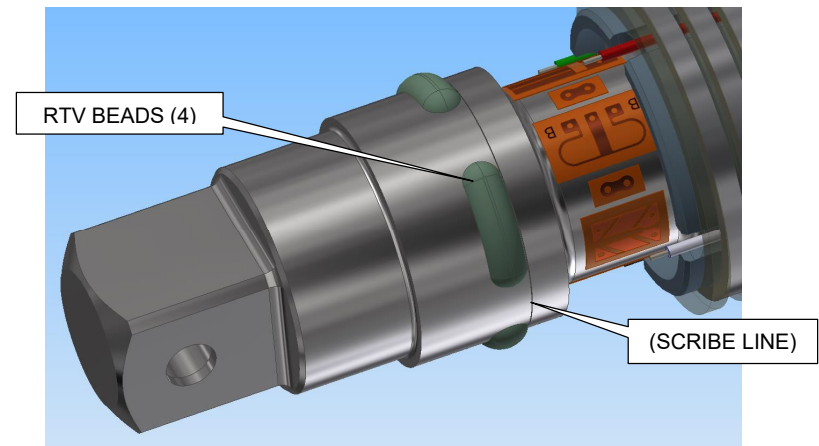

Figure 2
- 4) Apply four 1/8" beads of GRAY RTV approximately 1/8" below the scribe line on the SENSOR SHAFT. Reference Figure 2